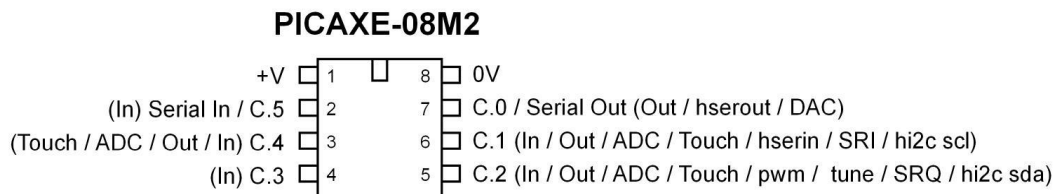

Figure 8
21. Figure 8 shows the datasheet of microcontroller IC1.